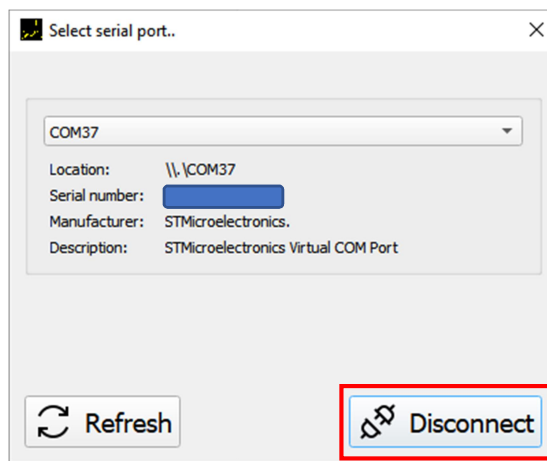

Figure 8.1-Shutdown
8.1. In the user interface menu, end the session with the device by clicking on the «**Connection**» button. In the window that appears, Figure 8.1, click on the «**Disconnect**» button. In this case, the port activity indicators will stop flashing, only the «**STATUS**» indicator will remain on, the device will switch to standby mode.